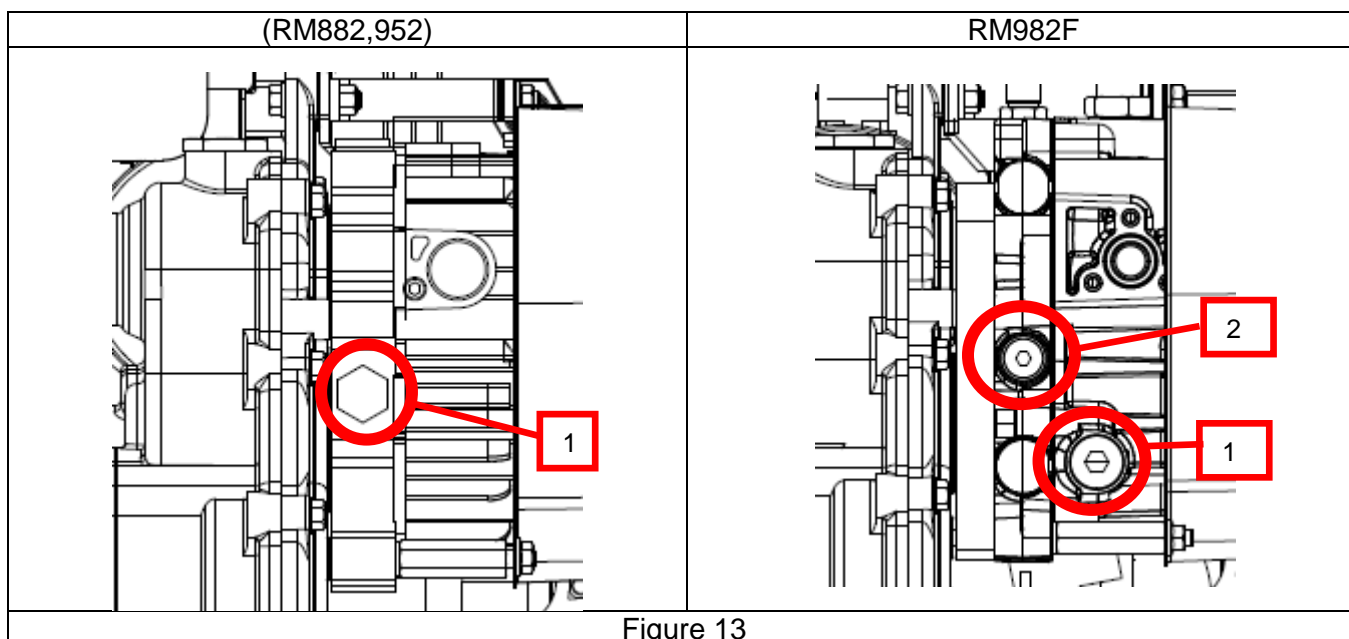
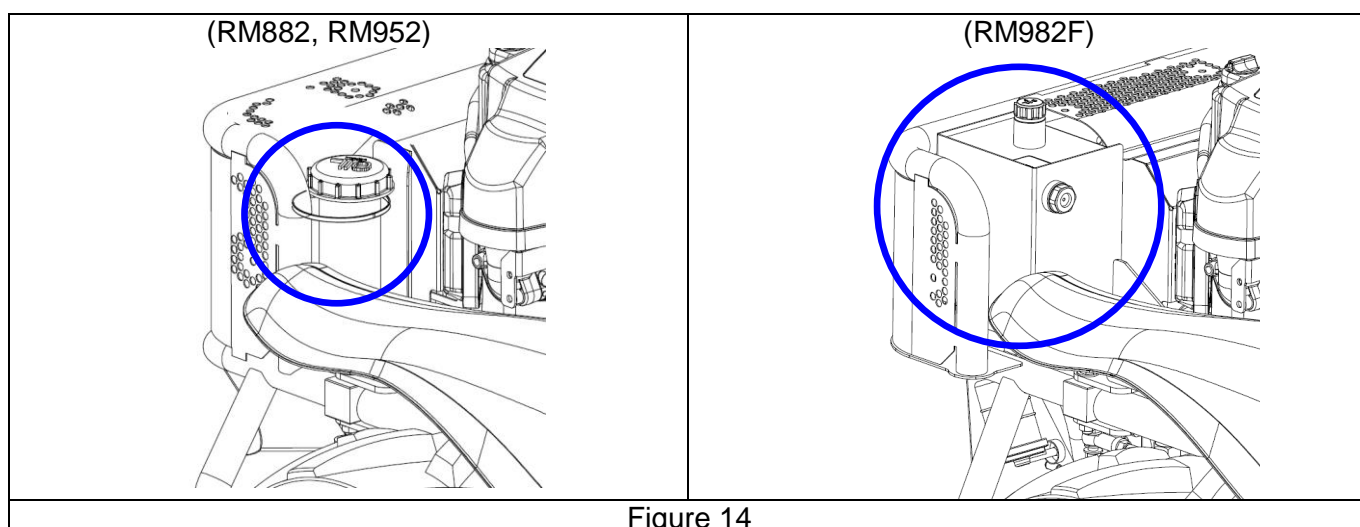

Figure 13
Figure 14
HST oil level (Figure 14)
Rear HST oil replacement (Figure 13,Figure 14)
1. Place the suitable container below the HST unit to catch the oil, then remove the oil drain plug (1 Figure 13).
Never loose the bolt (2 Figure 13). Otherwise, it might influence for machine driving. To do so is considered misuse, and damage caused by misuse is not covered by Warranty.
- And then, check if there is no bubbles in the HST oil tank. After working, check if the oil level reaches "High level position" in oil tank. If not, add oil up to "High level position" in oil tank.(figure 14)